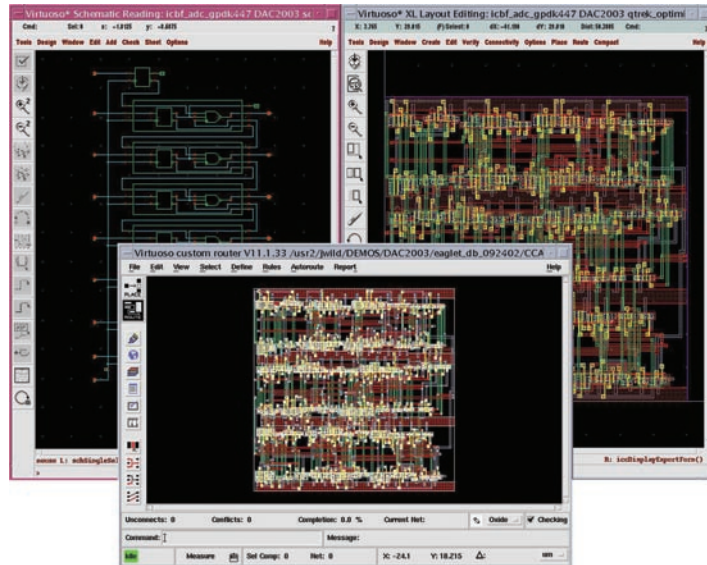

Figure 7: Optional Virtuoso Chip Assembly Router option for fast and accurate automatic interconnect
- Bi-directional interfacing to Virtuoso Schematic Editor and Virtuoso Chip Assembly Router (see Figure 7 on next page)